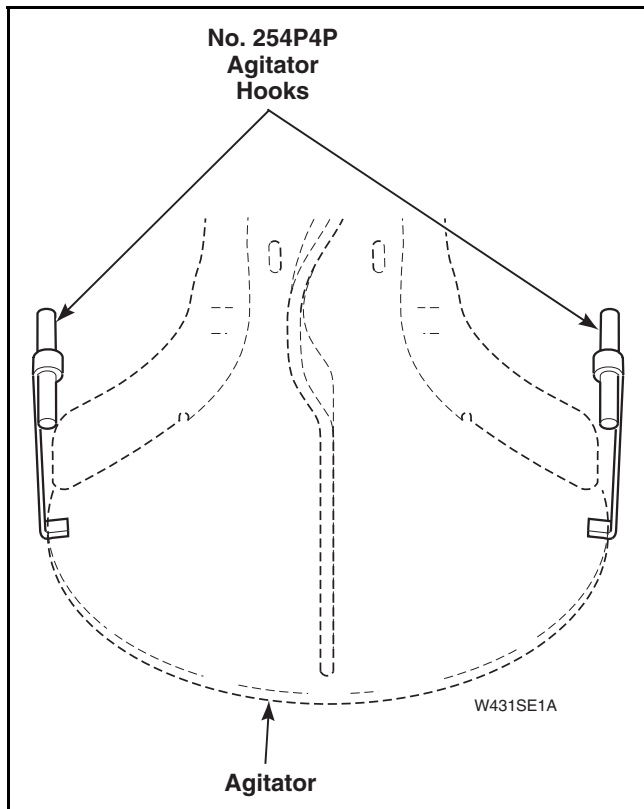

Figure 20
- Remove agitator by placing two agitator hooks, No. 254P4P, under bottom edge of agitator. Refer to *Figure 20*.